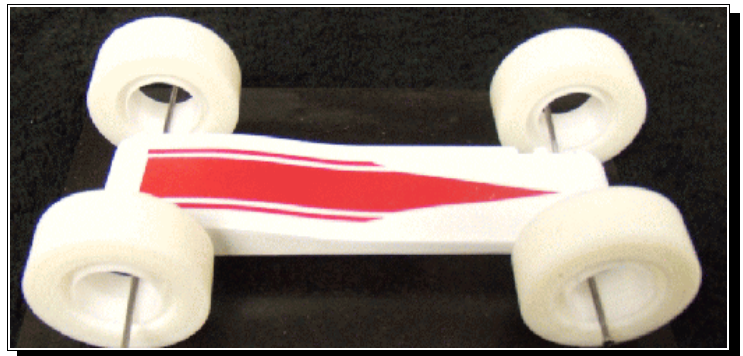

Figure 26 - Here are 4 axles sliding on the inside of the same rollers as Fig 25 but with a larger OD.
Look at **Figure 26**: How much KE is lost if all 4 wheel axles are sliding in the inner (ID) hole to roll each tape roll forward 1.00 inch? Units are in oz_F. Your calculation gives _____ in oz_F.